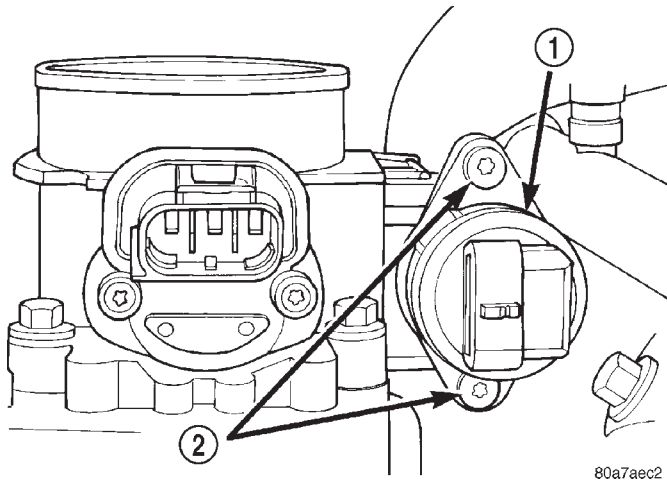

Fig. 28 Mounting Bolts (Screws)—IAC Motor
- (1) Remove air cleaner tube at throttle body.
- (2) Disconnect electrical connector from IAC motor.
- (3) Remove two mounting bolts (screws) (Fig. 28).
- (4) Remove IAC motor from throttle body.